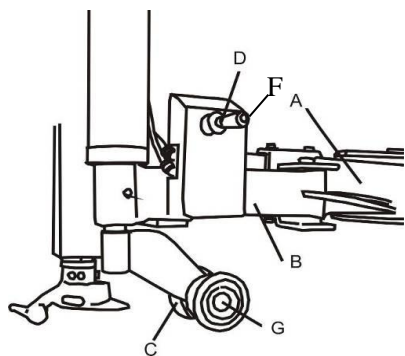

Fig 16
Each components of helping arm device are introduced as follows: (Fig 16&19):
Roller lifting handle (D, Fig 16) is for lifting and lowering roller C、G so as to adjust tyre demount/mount vertical height. Operate handle (D, Fig 16) up, then roller C、G goes up; Operate handle (D, Fig 16) down, then roller C、G goes down.
1. Press tyre with right pressing roller C/G to a position 3cm lower than rim edge, lubricate tyre bead, rotate turntable, lift roller C/G. ( Fig 16 )